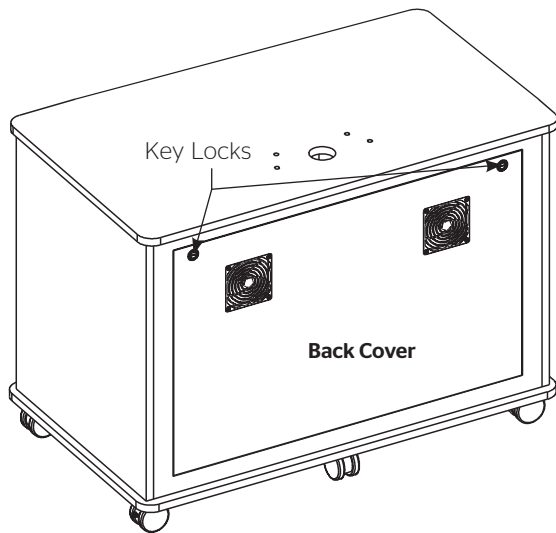

Figure 1
2. You will need access to the inside of the cart. Remove the back panel by unlocking the two locks on the back of the cart. See Figure 1. The back panel can then be tilted and lifted out of the bottom recess.